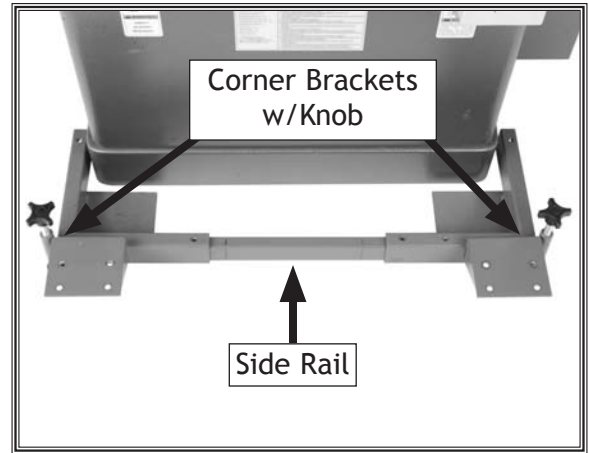

Figure 13. Rail inserted between corner brackets with knobs and feet.
3. Slide a side rail inside each of the two corner brackets with the foot posts, then slide the assembly up against the side of the machine that will be the front when pushed (**Figure 13**).